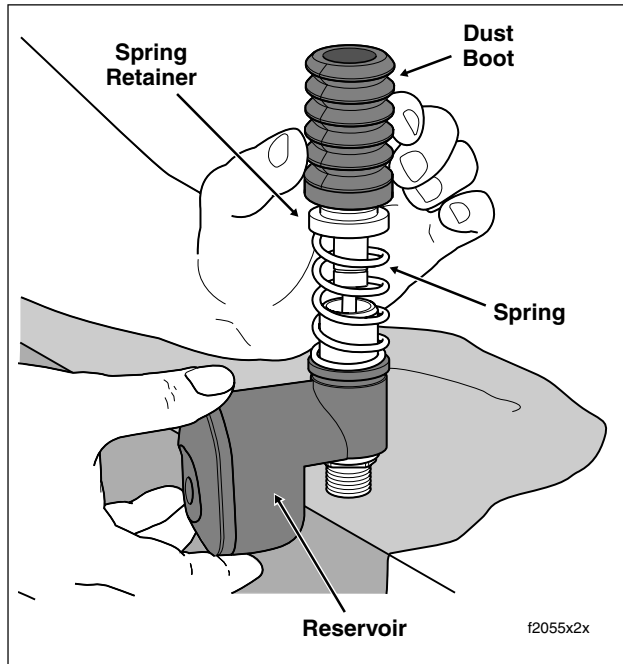

Figure 2-52. Install Spring, Spring Retainer and Dust Boot
11. Install spring over push rod and cartridge body until it contacts side of large retaining ring. See Figure 2-52.